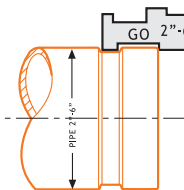

Fig. 1
- 2 Hold the gauge so that lettering "Go" is faced toward you. (Fig. 1)